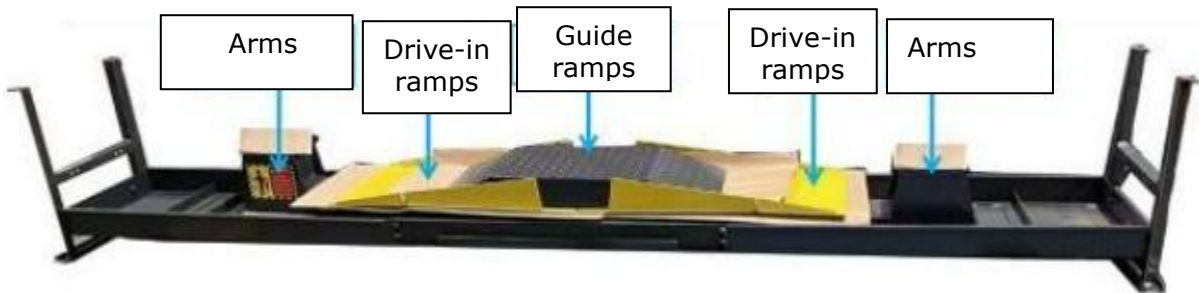

Fig.9
2. Available space. Make sure there is enough space for the lift; front, back, sides, and above. Refer to specifications for specific measurements.(See Fig.9)